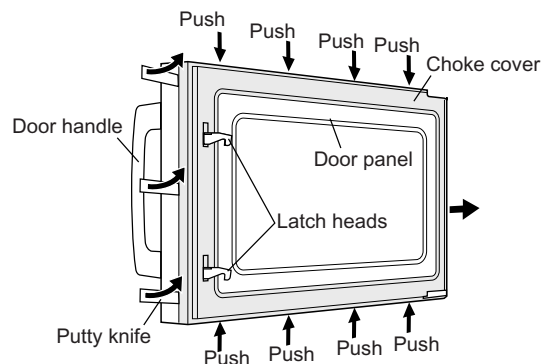

Figure C-6. Choke cover
2. Insert a putty knife (thickness of about 0.5mm) at the three (3) positions in gap between the choke cover and the door panel of the latch heads side as shown in the fig.C-6, to free engaging parts.
3. Push the each four (4) positions of the upper side and lower side of chock cover by your finger as shown in the Fig.C-6, to free engaging parts.
4. Pull the chock cover rightward as shown in the fig.C-6, to free engaging parts.